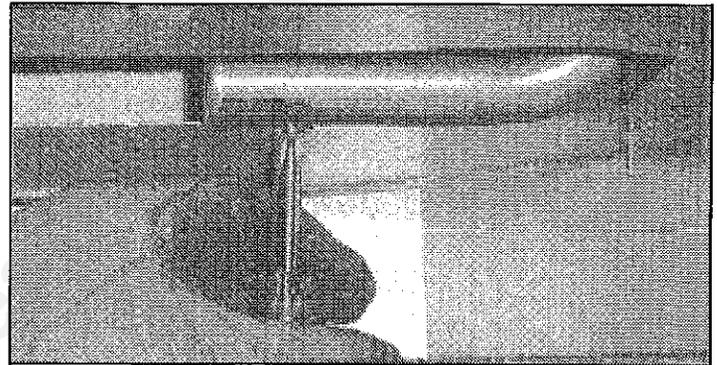

Figure 6.2 Air Shutter Adjustment Novus ND/NB Series
- Locate the burner tube in the valve compartment. See Figure 6.2.